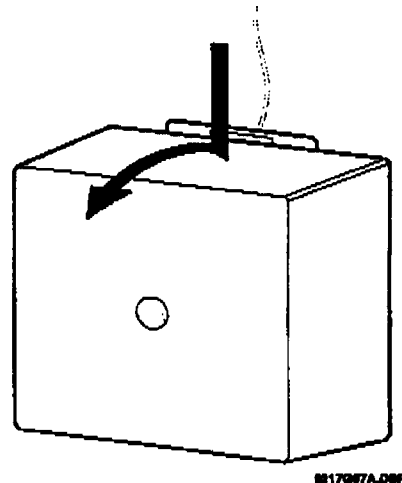

Figure 3. Removing the receiver's cover
- 2) Remove the receiver's cover by pressing down on the center of the top edge of the cover (see Figure 3).